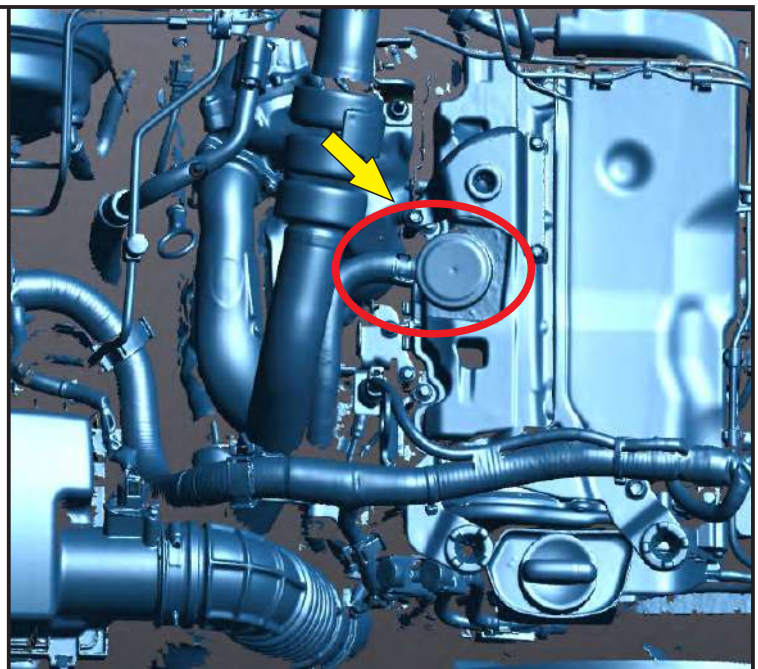

FIG. 8 ENGINE PCV VALVE & FACTORY PCV HOSE
5. Connect the shorter end of Ryco MH9809B moulded hose onto the upper port of the RCC351 and secure with a supplied large (MS4091, ID 29mm) hose clamp. Route the moulded hose behind the metal factory fuel filter bracket and on top of the other PCV hose as shown. Connect the longer end of the MH9809B moulded hose with the supplied hose joiner (MS4100) and secure with a supplied small (MS4094, ID 25mm) hose clamp (Fig. 8).